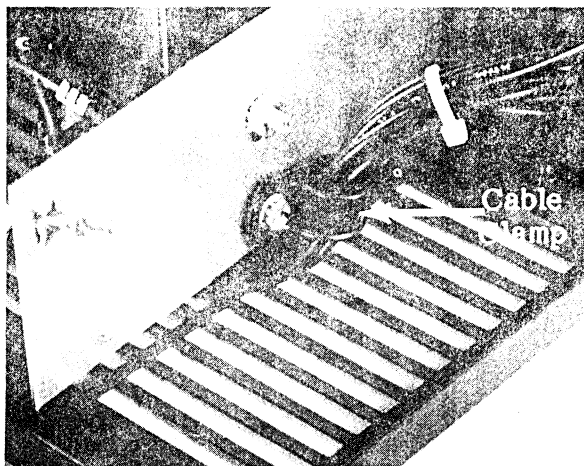

FIGURE 12
02.17 The harness is loosely secured to the chassis with a cable clamp (Figure 12); the clamp will allow slight harness movement.